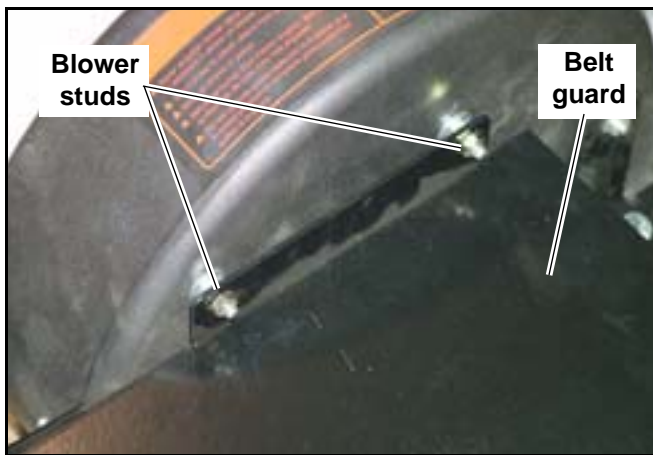

Figure 3-5
7. Attach the belt cover to the blower housing studs. Fig. 3-5